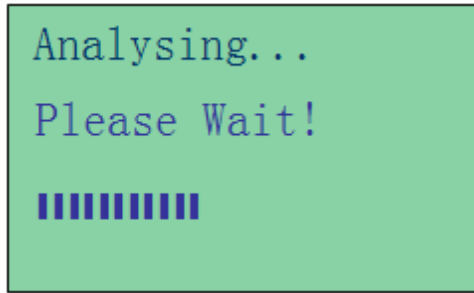

Figure 26
6. Press  key again and it will starts analyzing (Fig. 26)